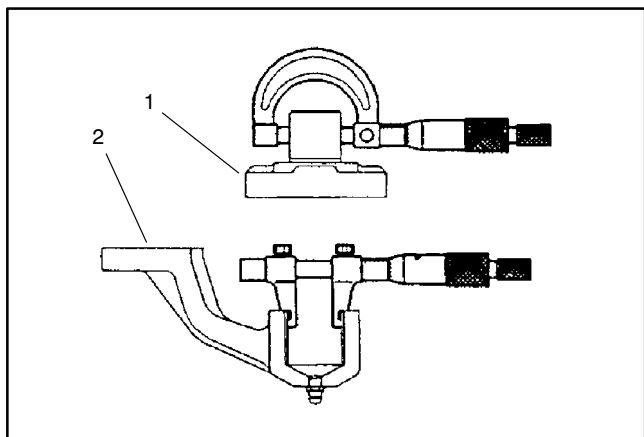

Figure 5
1. Measure the knuckle pin O.D. and the axle case support bushing I.D. to determine the bushing to pin clearance (Fig. 5). Replace components as necessary.